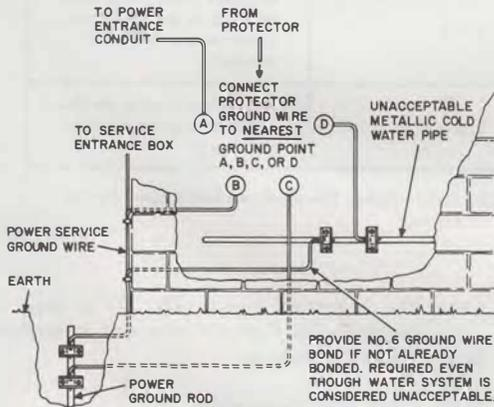
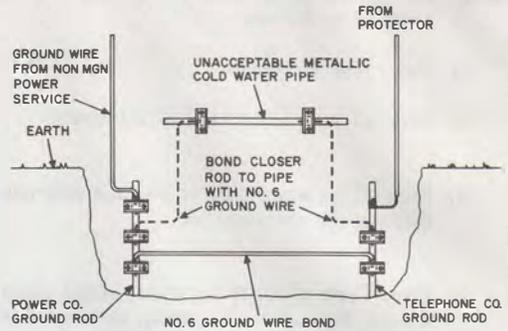

Fig. 45—Unacceptable Water System or Building Ground (Multigrounded Neutral Power System Grounded to Ground Rod)
Fig. 46—Unacceptable Water System or Building Ground (Non-Multigrounded Neutral Power System Grounded to Ground Rod)
6.05 Where the power is grounded to a ground rod and an acceptable water pipe or building ground does not exist, it is necessary to know if the power service is MGN (multigrounded neutral). This information should be obtained according to local instructions. Station protectors installed where an MGN power system is grounded to a ground rod should be grounded as shown in Fig. 45. Where a non-MGN power system is grounded to a ground rod, protectors should be grounded as shown in Fig. 46.